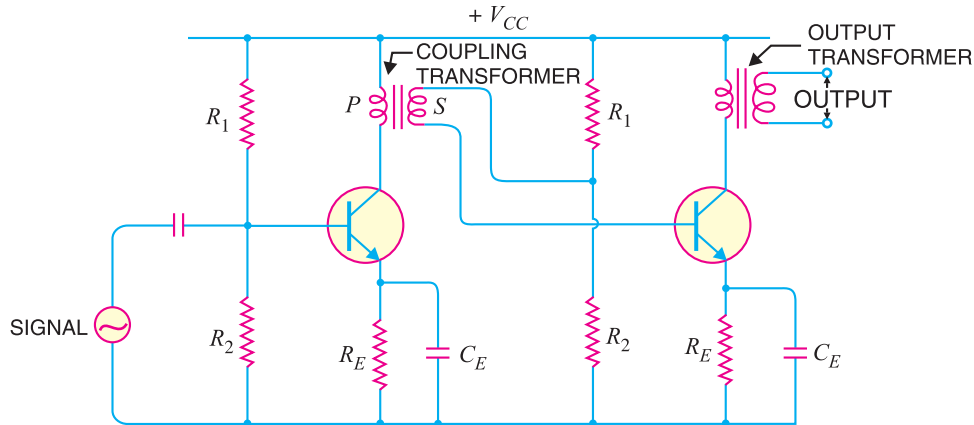

Fig. 11.15
Transformer coupling is generally employed when the load is small. It is mostly used for power amplification. Fig. 11.15 shows two stages of transformer coupled amplifier. A coupling transformer is used to feed the output of one stage to the input of the next stage. The primary  $P$  of this transformer is made the collector load and its secondary  $S$  gives input to the next stage.
**Operation.** When an a.c. signal is applied to the base of first transistor, it appears in the amplified form across primary  $P$  of the coupling transformer. The voltage developed across primary is transferred to the input of the next stage by the transformer secondary as shown in Fig.11.15. The second stage renders amplification in an exactly similar manner.